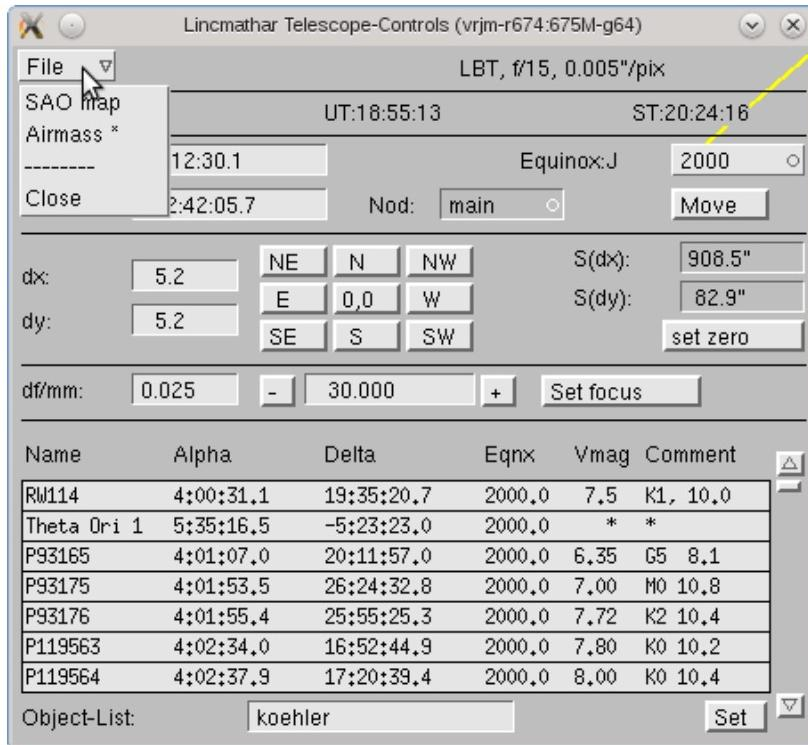

Figure 25: Telescope control window
- **Close:** Closes the telescope control panel of Figure 25. This window can be restarted from the modules menu on the camera control panel, Figure 6, or by the `telegui` command (Section 5.3).
*Section 4.3.5 is only relevant to PANIC, not to any other instrument.* The airmass window, Figure 26, graphically displays the airmass of the currently selected object (red dot), as well as a tracing of the airmass over several hours of time (blue line). The number of hours depends on the width of the window. This feature is particularly useful when used in conjunction with object files. This feature is only useful when used in conjunction with object files or in simulation, because GEIRS has no information on the actual telescope pointing for this instrument. Objects selected and set from an object file will show their current airmass in the airmass window. The airmass plot will automatically reset to the current telescope position whenever the GUI queries the telescope computer for the current position (for example, when a read command is finished). The airmass window can be turned off by reselecting the `Airmass` option in the file menu of the telescope control panel, Figure 25. Using the `quit` option in the xwindows menu will also close the telescope control panel!
*Section 4.6 has only some marginal importance for PANIC, not for any other instrument.* An observer's private object list in the following format is supported for use in Figure 25: